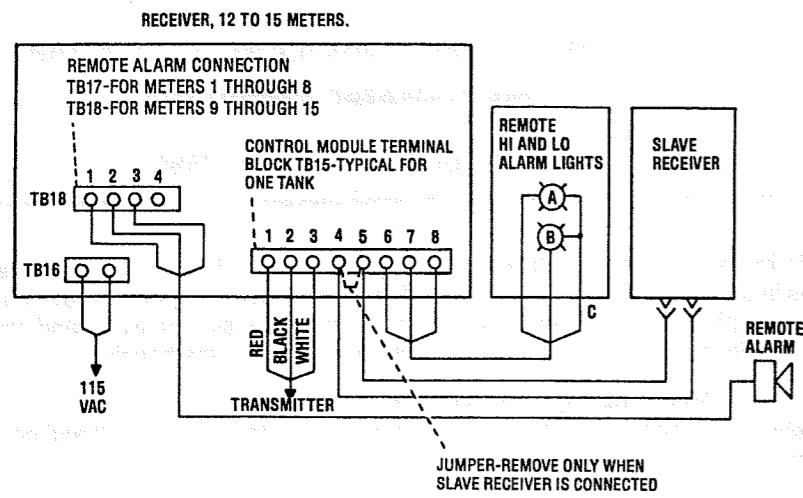

Fig. 4. Cable connections, 12 to 15 meter receiver... typical.
2. Check circuit connections to transmitter and secondary receiver(s) (if used), and check for open circuits in junction box between transmitter and receiver in TLI systems showing evidence of trouble. (See Figs. 4 and 5.)
Slave meter faulty or short circuit in wiring.	Replace meter (Fig. 4) or correct wiring
Bring cables from individual tank transmitters and 115 VAC, 50-60 Hz power source (and remote alarms and secondary receivers, if included) into housing through stuffing tubes. Connect cables to proper terminal blocks as in Fig. 4. **Note:** Control module terminal block for one tank system is shown typically in Fig. 4. All other systems are connected to their related control module terminal blocks in the same manner.
1. Disconnect transmitter wiring from terminals 1, 2 and 3 on related control module terminal block in receiver (Fig. 4) and connect FLOAT SIMULATOR cable (Fig. 10) in its place. (Remove wing nut to release SIMULATOR cable.)